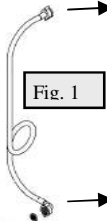

Fig. 1
- Use 5' flexible water supplied hose (Fig. 1)